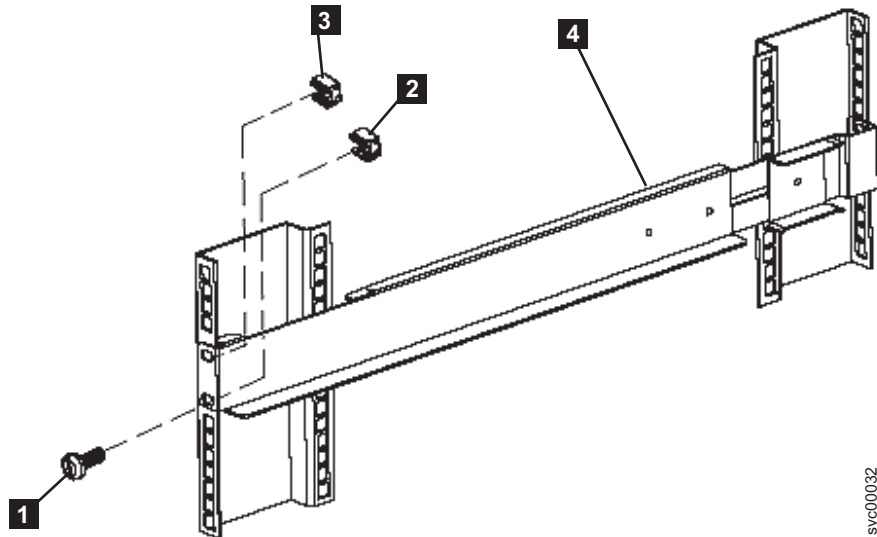

Figure 276. Removing the front rail on the 2145-1U uninterruptible power supply
3. Remove the clip nut from the top hole of the rail (**3** in Figure 276).